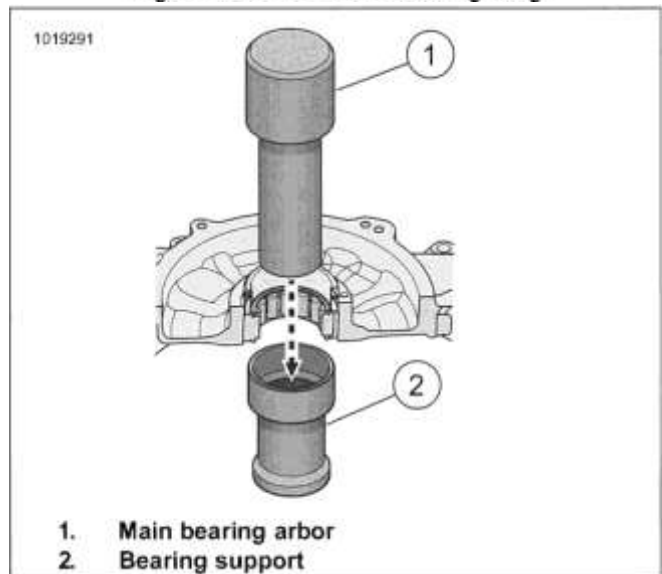

Figure 4-71. Remove Left Main Bearing **Install Main**
- See Figure 4-71. Press bearing from stator side into flywheel side of crankcase.